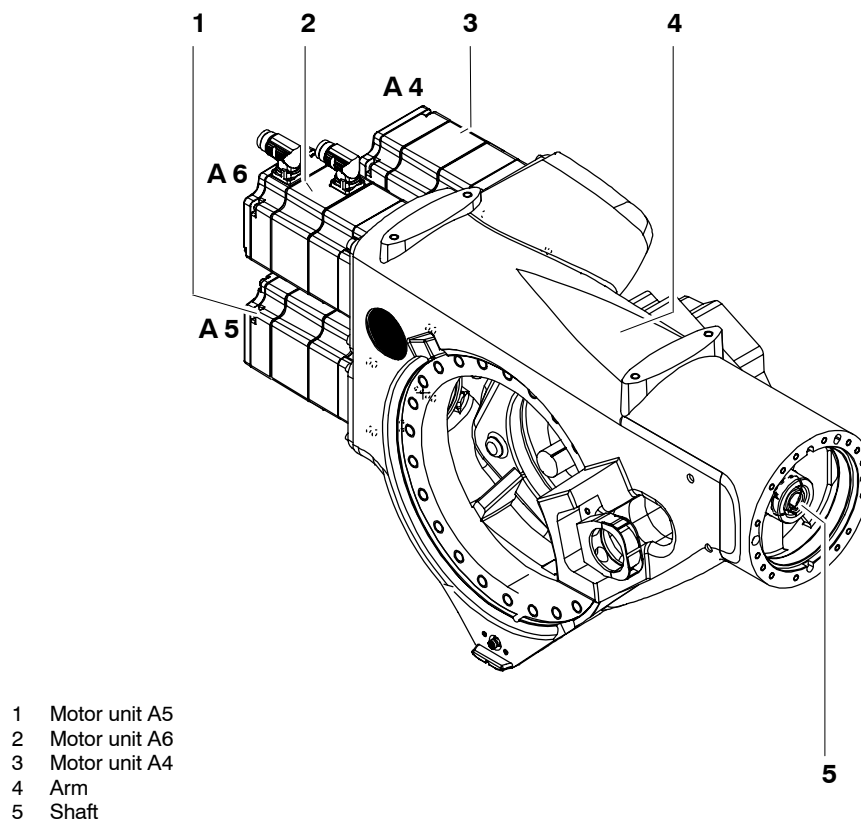

Fig. 5 Wrist axis motor units A4 to A6
The wrist axes are driven by three motor units. These are fastened to the arm (Fig. 5/4) by means of screws. Motor units A4 (3) and A5 (1) are of the same design and drive the respective wrist axes via toothed belts and shafts. Wrist axis A6 is driven directly by motor unit A6 (2) via a push-on shaft (5).